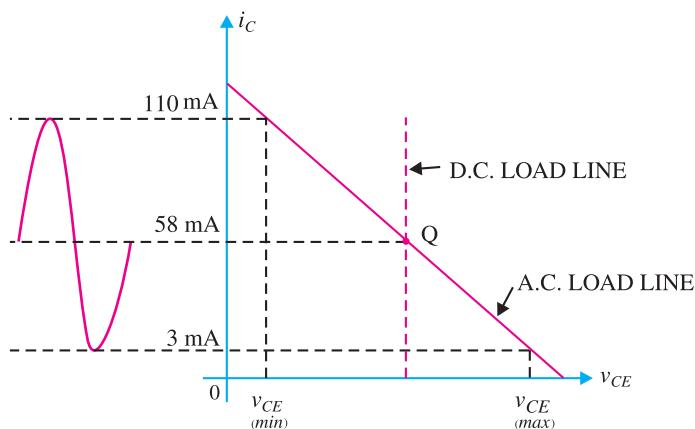

Fig. 12.11
**Solution.** The conditions of the problem are represented in Fig. 12.11. The zero signal  $I_C = 58 \text{ mA}$ .